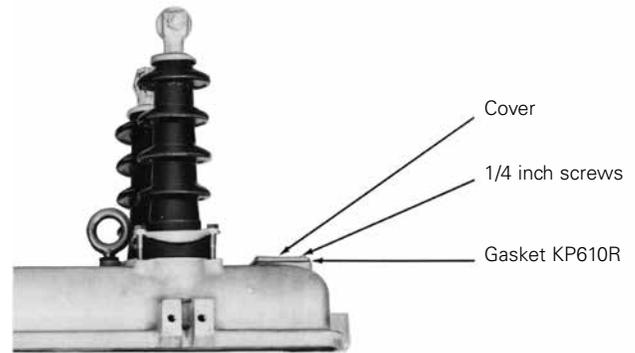

Figure 7. Recloser head casting.
- Remove cover plate located at the end of head casting opposite recloser operating handle by removing four 1/4-inch screws (Figure 7).